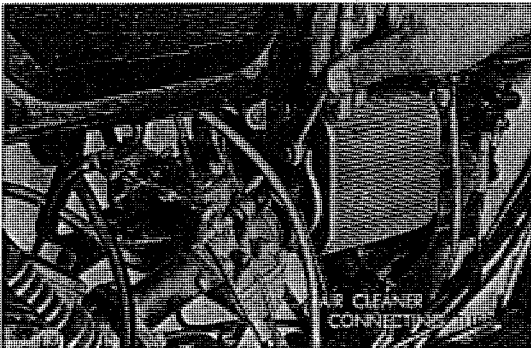

Fig. 3.4 Air cleaner connecting tube
5. Remove the air cleaner coupling and the carburetor at the point of the set plate stop. (Refer to Fig. 3.4)